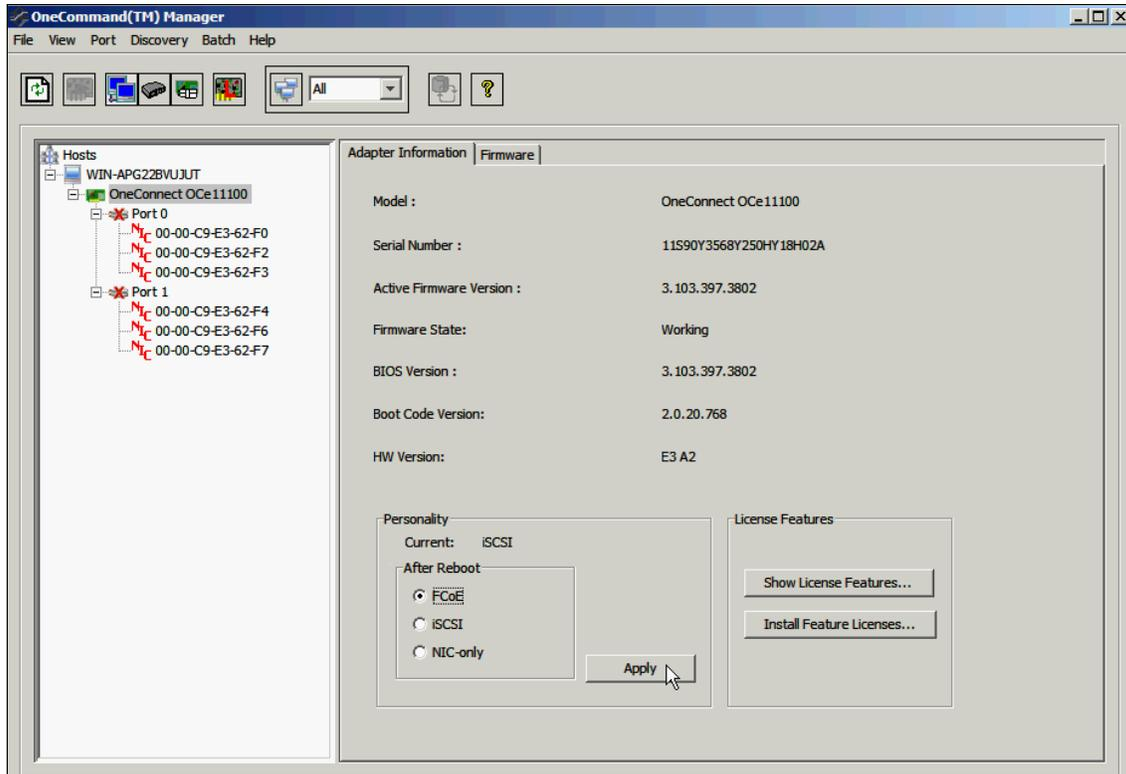

Figure 10-133 Personality area of the OneCommand Manager window
3. In the Personality area (Figure 10-133), under After Reboot, select **FCoE** for the disk connection type. Then click **Apply**.